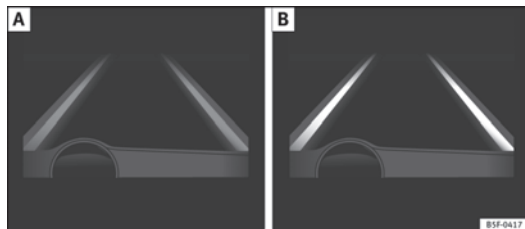

Fig. 145 On the instrument panel display: Indication on the Lane Assist system display (example 1).
- The system is active, but not available, either because the minimum speed has not been reached or because the lane lines are not recognised ⇒ Fig. 145 A.
- The system is active and available, both lane lines are recognised. The steering angle is not being corrected at this moment ⇒ Fig. 145 B.